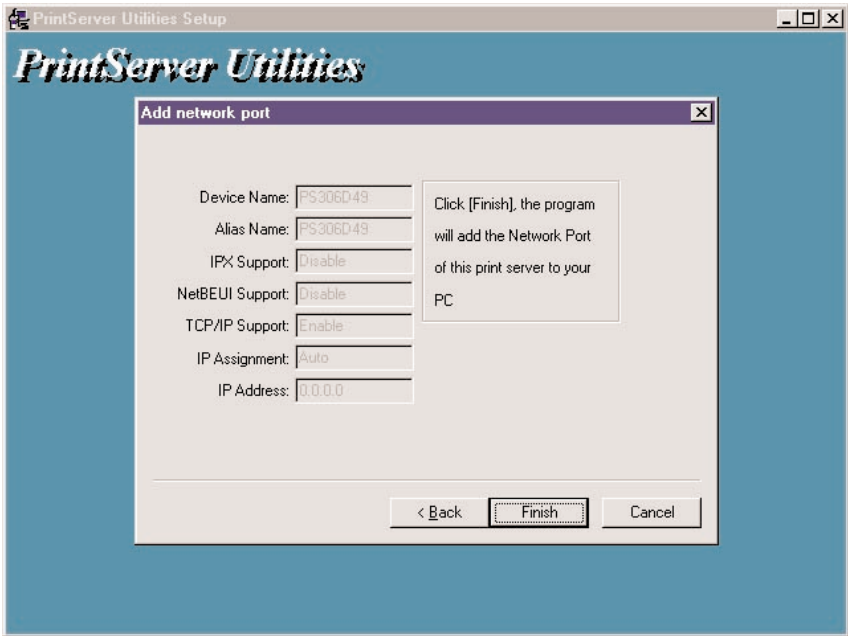

Figure 4-11. Add Network Port screen.
11. To go back to the previous screen, click on the **Back** button. To cancel the changes, click on the **Cancel** button. Click on the **Next** button, and the configuration summary is displayed in the window (not shown). The print server setup is complete. Figure 4-11 appears.
12. In Figure 4-11, press the **Finish** button to add the print server's network port to your PC. Click on the **Back** button to go back to the previous screen. Click on the **Cancel** button to cancel the changes.